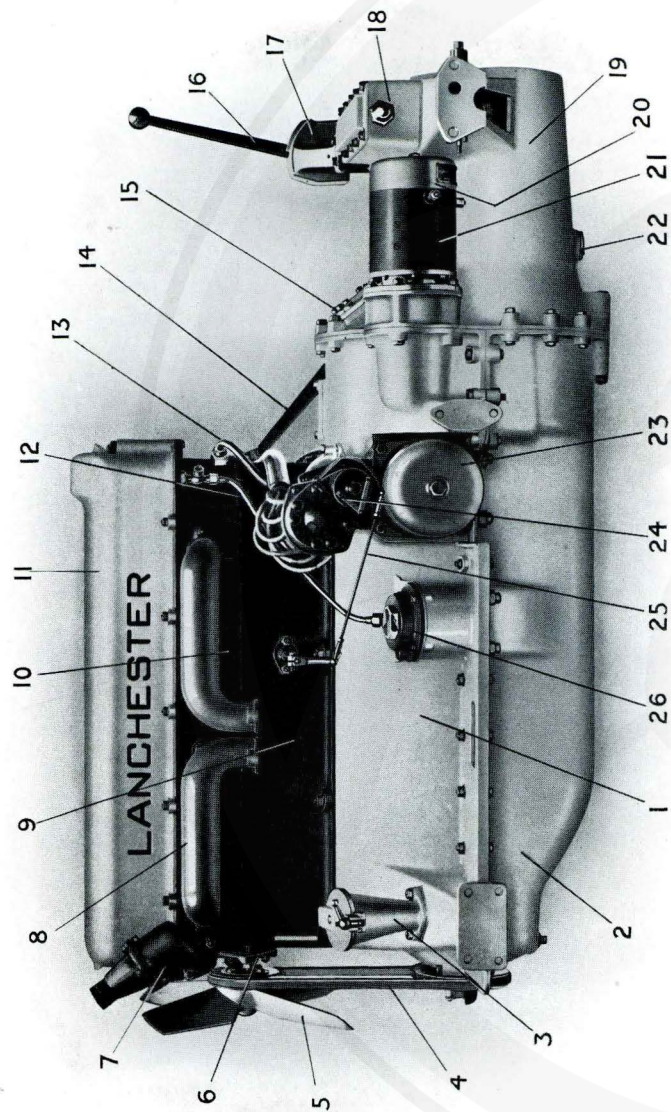

Fig. 4. Power Unit.
*Crankcase.* Both the crankcase and the oil base are of deep section combining to form a stiff girder-like construction, the strength of which is greatly increased by employing wide flanged crankcase joints and a large number of bolts securing them to each other. The engine is supported in the chassis by bearer brackets cast integral with the crankcase and gear box. Mounted on the near side bracket at the forward end of the crankcase is an oil filler of large diameter Fig. 4; no tun-dish is required for filling, and the oil filler lid being hinged and secured with a wing nut, no tools are necessary to open it. Towards the rear of the crankcase on the nearside is situated an oil filter, the gauze of which can be removed for cleaning or replacement without loss of oil. An overflow cock indicating the correct oil level (also for use in the event of over filling) is provided on the offside of the engine. For lubrication instructions see page 39.
#### Description of fig. 4.
under pressure to the main bearings, connecting rod heads and small ends, pistons, camshaft worm drive and bearings. In the base of the oil sump, on the suction side of the pump, is a copper gauze strainer, and on the pressure side of the pump is the oil filter Fig. 4, which is removable without loss of oil or the necessity of emptying the oil sump. In order to maintain a constant oil pressure a spring loaded relief valve is fitted, which allows excess oil to drain back into the sump. The lubrication of the engine is entirely automatic and requires no attention other than the usual periodic re-filling, and removal of stale oil after 5,000 to 10,000 miles running, for which a drain cock is provided in the base of the oil sump, controlled by the same lever that operates the oil overflow level cock. The oil filler Fig. 4 at the front end of the crankcase is provided with a detachable copper gauze strainer. The filler also serves as a crankcase vent.
The Dynamo Fig. 4, situated at the rear end of the crankcase on the nearside, is driven from the cross shaft through the medium of a Rhinoceros hide coupling of the Oldham type.
*The Electric Starter* Fig. 4 is mounted on the flywheel casing and lies horizontally parallel to the gear box. The commutator cover is divided so as to make it readily detachable, giving access to the brushes and commutator for cleaning or adjustment. The starter pinion is of the bendix type and automatically engages with a gear ring mounted on the fly-wheel when the armature is set in motion by operating the push-in switch on the instrument board.